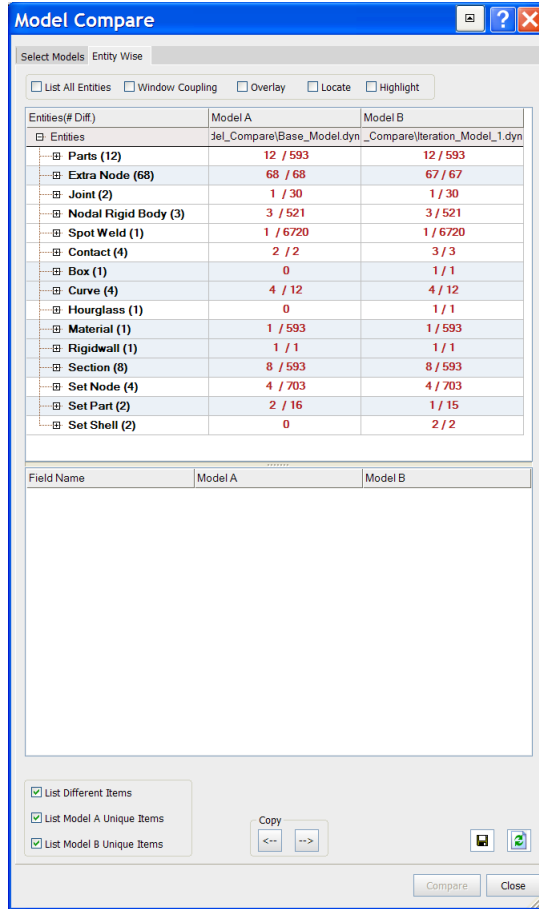

Fig. 3: Model Compare showing the actual keyword differences between two models
1. Actual difference of keywords ( Fig 3)